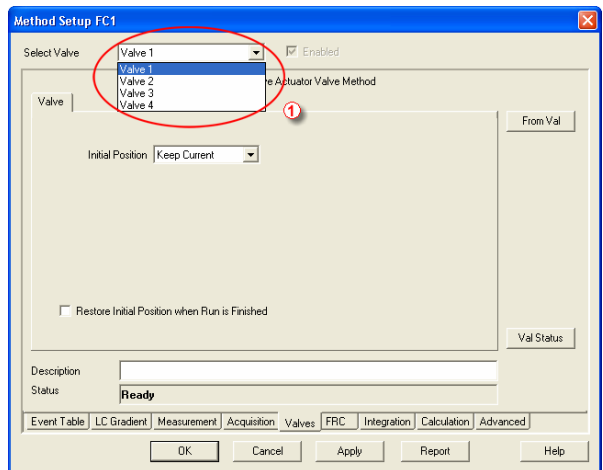

Fig. 28. Method Setup - Valve
- New type of control module - Valves – is now supported. The control module is available for all Clarity Instrument types. After configuration, a new **Valves** tab will appear in the **Method Setup** dialog for each configured module. In case the module supports the simultaneous control of several valves on common communication line, you can select between them using the listbox ① in the tab header area (as shown on **Fig. 28**). The tab allows for the initial valve settings, when the instrument method is sent to devices.